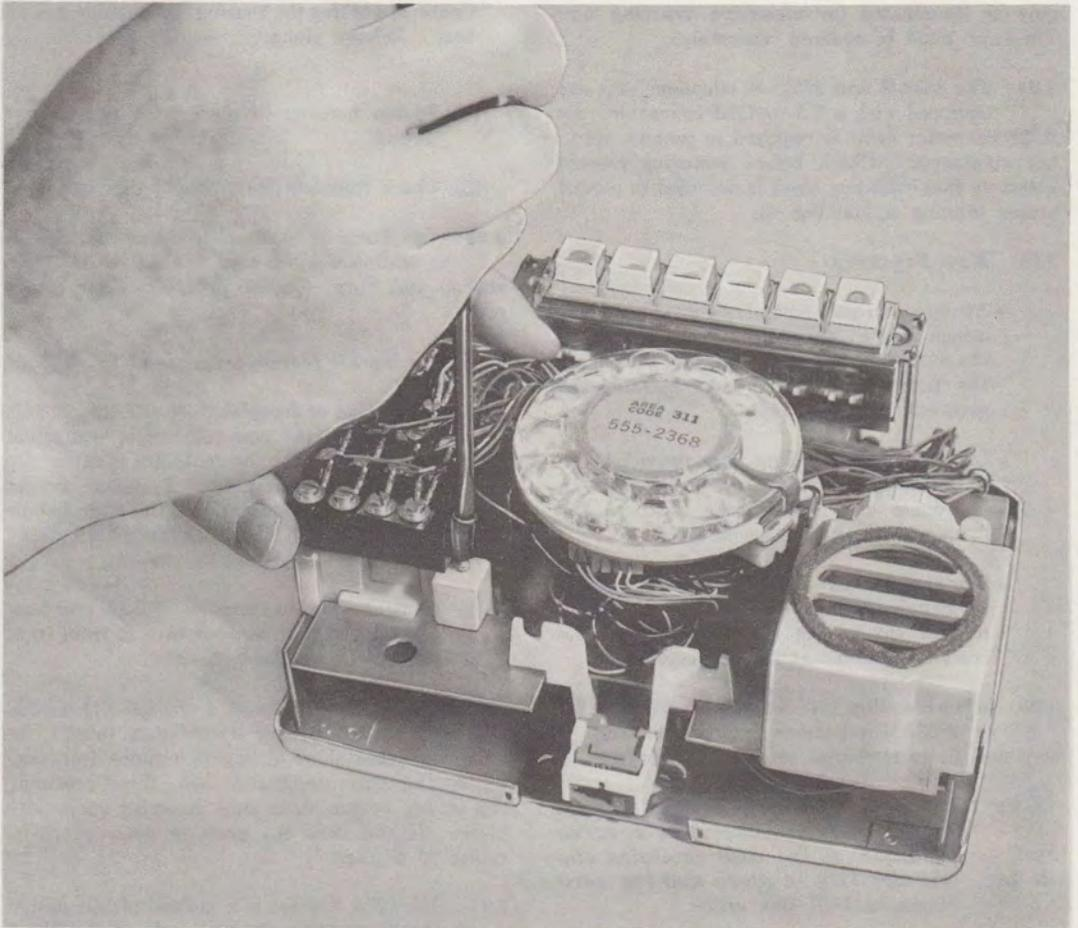

Fig. 4—Removing Terminal Board Mounting Screw
(1) Insert tabs on faceplate into slots of housing. Use a KS-21107 type releaser or equivalent to depress the tab of the faceplate retainer clip while seating the faceplate. To insure proper positioning of the retainer clip, raise the handle of the releaser well above horizontal, as shown in Fig. 4 before withdrawing the tool.
(2) If installing 2853A faceplate (2853AM telephone set) place station number card in from front of faceplate in standard manner.
5.02 When dial replacement is necessary in the 853AM telephone set, use an 8RA dial. First remove terminal board mounting screw as shown in Fig. 4. Remove dial by loosening adapter
5.03 When dial replacement is necessary in the 2853AM telephone set, use the 35Y3A dial. First remove terminal board mounting screw as shown in Fig. 4. Then rotate terminal board upward to gain access to dial mounting screws.